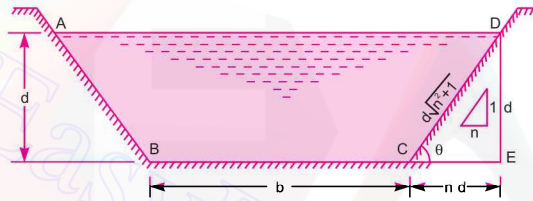

Fig. 16.10 Trapezoidal section.
**16.5.2 Most Economical Trapezoidal Channel.** The trapezoidal section of a channel will be most economical, when its wetted perimeter is minimum. Consider a trapezoidal section of channel as shown in Fig. 16.10.
But from Fig. 16.10,  $\frac{b + 2nd}{2} = \text{Half of top width}$